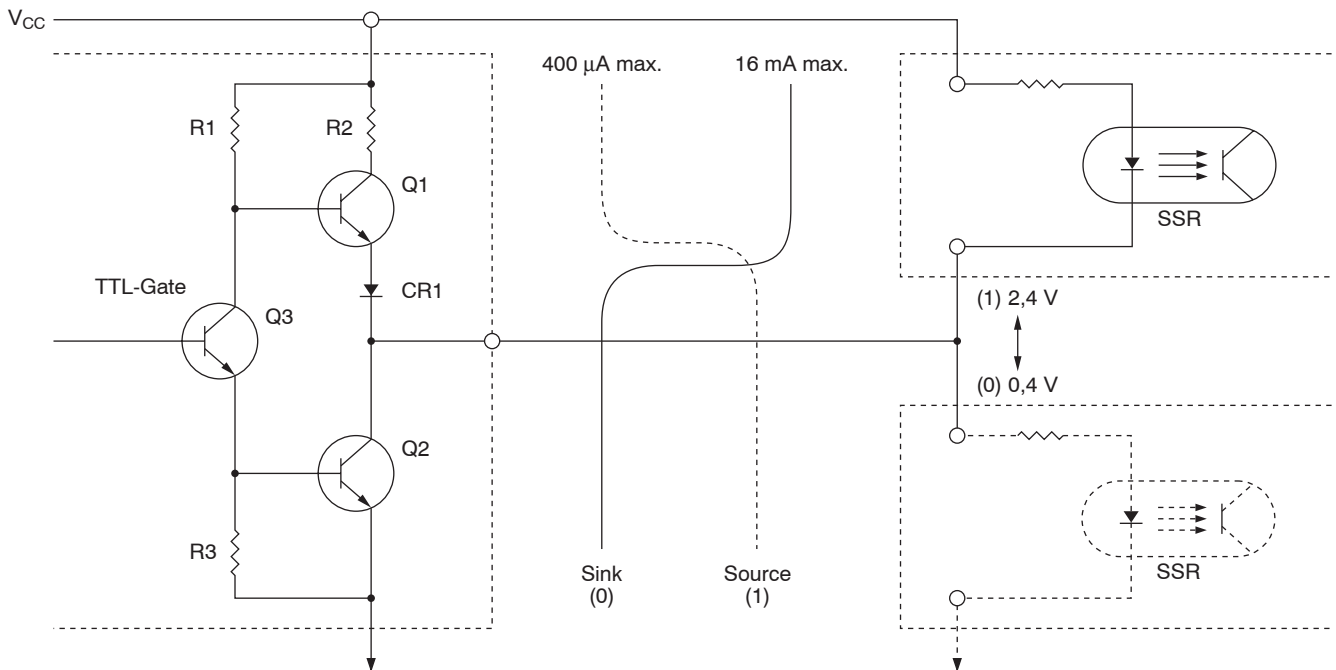

Fig. 6: Typical circuit of a TTL gate driving SSR
The activating signal may be derived from mechanical contacts or solid state devices such as those shown in figure 6 The minimum supply voltage through these contacts may be equal to the SSR turn-on voltage (3 volts dc typical), whereas the positively or negatively referenced transistors require a minimum supply voltage a few tenths of a volt above the specified turn-on threshold, say 3.5 volts
The relationship of the TTL gate to an SSR is illustrated schematically in Fig. 6. In this configuration the SSR supply voltage and the gate  $V_{CC}$  should be common and comply with the TTL specified limits of say 5 volts  $\pm$  10%. It can be seen that with a positively referenced SSR and the gate at logical (0), Q2 is operating much like a discrete NPN transistor in the grounded-emitter saturated state. In this mode the gate can sink up to 16 mA with
It should be noted that the 2.4 volt gate output in the logical 1 state relates only to a negatively referenced load. It does not represent a voltage source to a positively referenced load (SSR), where it would appear to be greater than the off state voltage. Referring again to Fig. 6, Q2 would be off and CR1 is reverse biased, thus presenting essentially an open circuit with virtually zero potential across the SSR.
The off state leakage current in the driving semiconductor shown in Figs. 6 to 8 is significant, just a few microamperes, which could not possibly turn on the SSRs. However, the off state (output leakage current of any packaged solid state driving device (e.g. temperature controller, etc.) should first be checked for compatibility with the SSR.